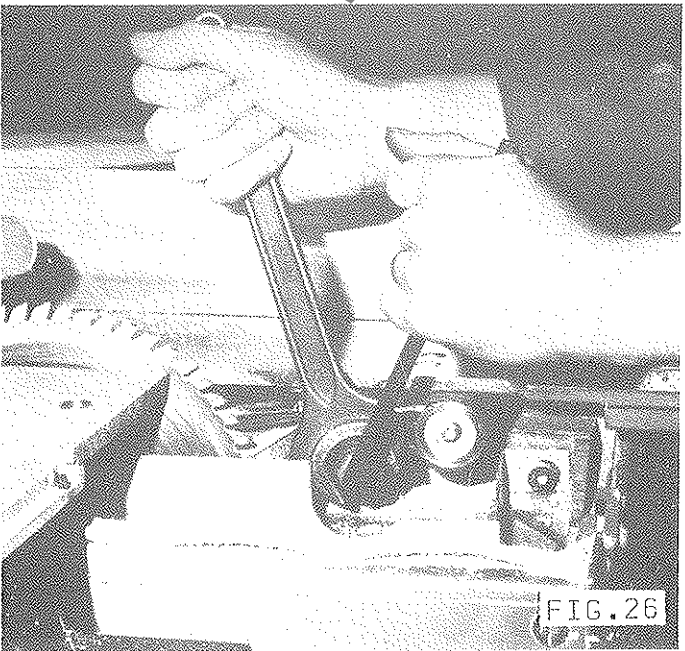

FIG. 26
- 4) Locate 8mm allen key (supplied) in scoring saw spindle as shown in FIG.26 and remove scoring saw nut (right hand thread) with spanner supplied.